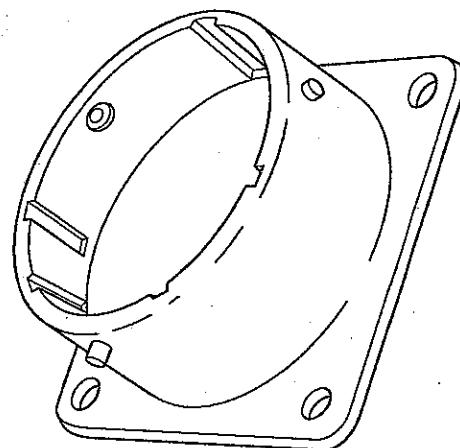

Fig 27. Dummy stowage receptacle, general view
18.1 Dummy receptacles (Fig 27) are used as a stowage for 466 straight plugs when they are temporarily disconnected from receptacles. They are available in normal and keyway oriented configurations.